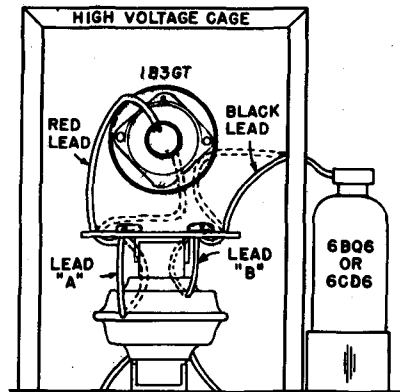

Fig. 19 — Capehart
**Proper h-v lead dress (see Fig. 19).**